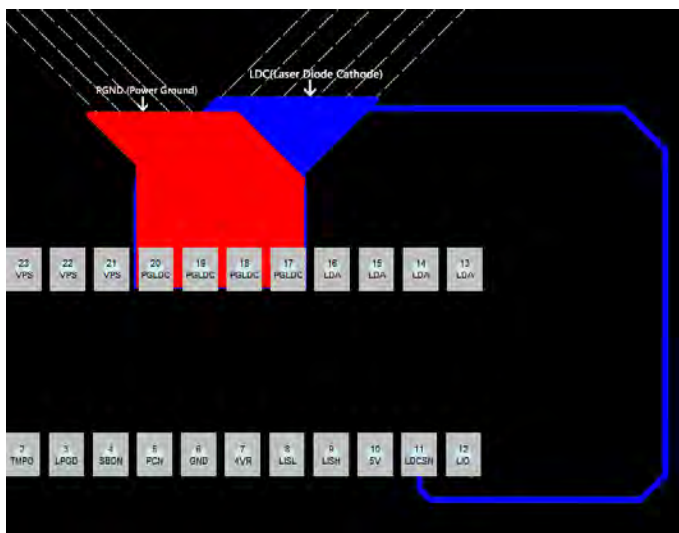
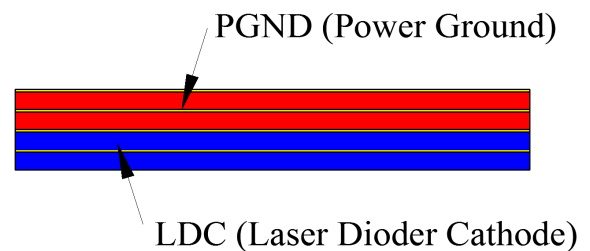
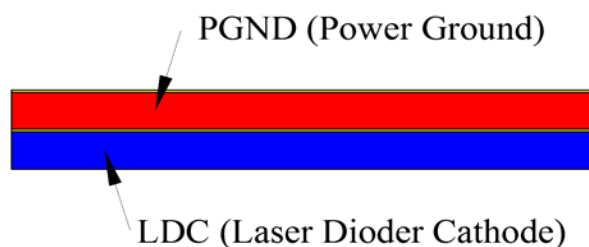

Figure 15. The Layout for the Two-Layer PCB
Figure 17. The Section View for the Four-Layer PCB
Figure 16. The Section View for the Two-Layer PCB
4. If the PCB is for mounting the laser driver. See the figures below for the layout of PGLDC pin. If the PCB has two layers, the top layer (red) is for routing PGND track, and the bottom one (blue) is for routing LDC track, see Figure 15. If the PCB has four layers, the top two layers are for routing PGND track, and the bottom two layers are for routing LDC track. The section views for two-layer and four-layer PCB's are shown in Figure16 and Figure 17 respectively.